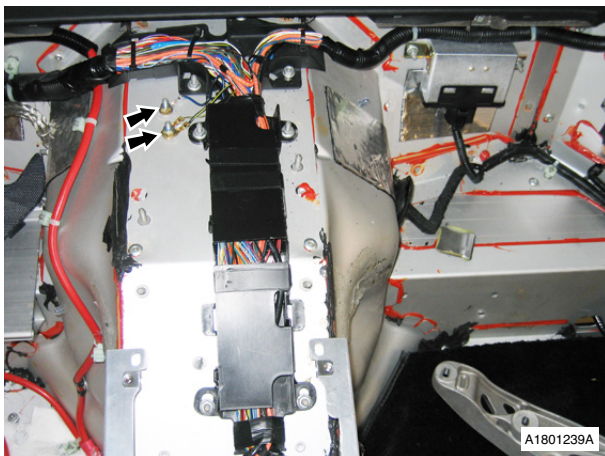

Fig. 25
61. Remove earth headers (x2) (see Fig. 25).